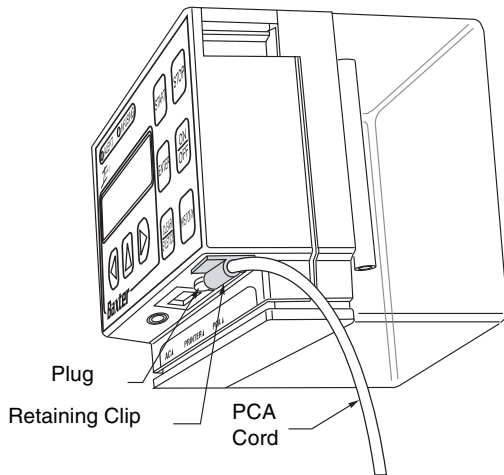

Figure 3-4 Connected PCA Cord and Plug
2. Make sure the PCA cord and plug are installed as shown in Figure 3-4.